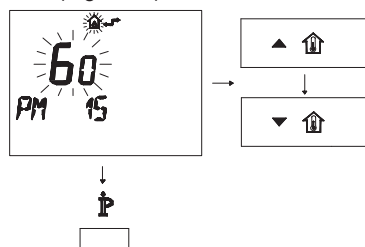

Fig. 7.17
- Modify the programmed SET by acting on buttons  $\blacktriangle$   $\uparrow$  or  $\blacktriangledown$   $\uparrow$  until a **setting of 60** is displayed, wait for the number programmed to flash (Fig. 7.17).